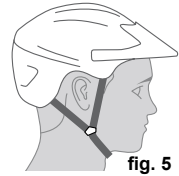

fig. 5
- **Helmet use (fig. 5):** Always wear a properly fitted helmet that is certified as meeting safety regulations when riding your eBike. Some manufacturers may offer helmets that are specifically designed for use with eBikes.